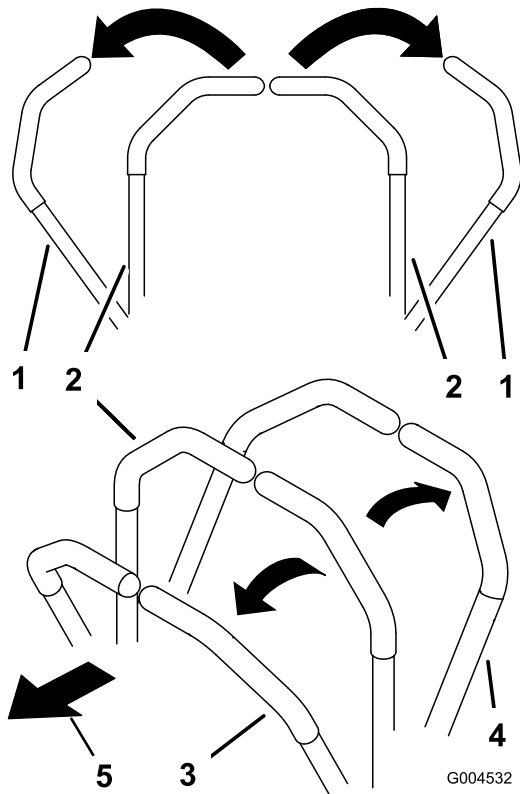

Figure 19
1. Move the control handles to the neutral-locked position (Figure 19).